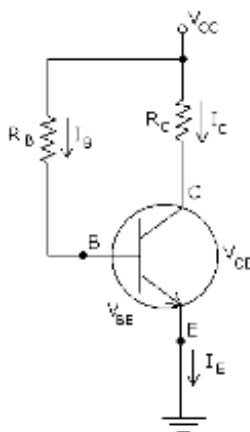

Figure Q1A
- 1) For the biasing circuit shown in Figure Q1A with silicon (4)